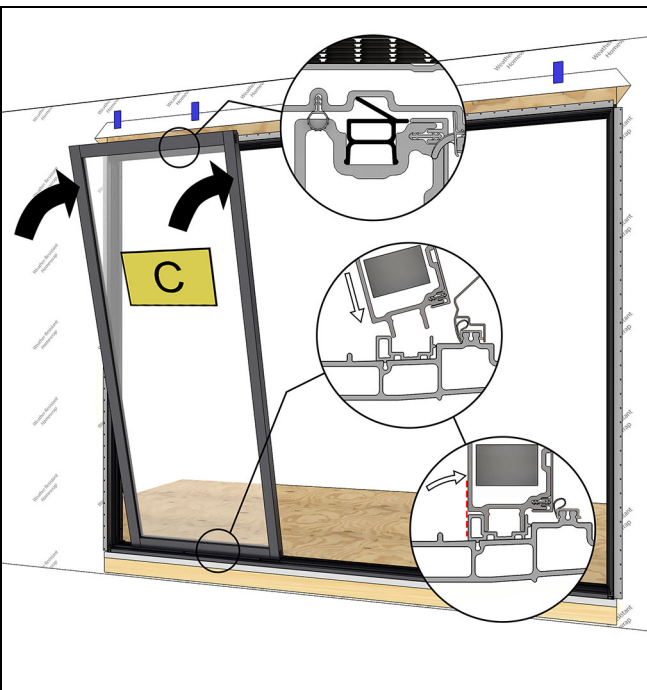

Figure 81 Exterior view shown.
1. Install your (C) stationary panel from the exterior. Set the panel on the exterior track a few inches from the jamb and tip into place. Press the top in to engage the panel retainers in the frame. When fully seated you will hear an audible, "click". See Figure 81.